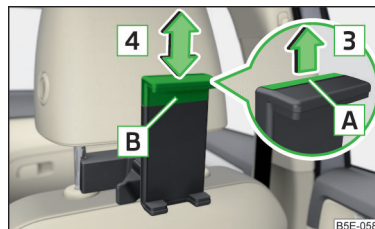

Fig. 122
- **To adjust the holder size**, pull out the securing tab **A** in the direction of arrow **3** and push the part **B** in the direction of arrow **4** to the desired position » Fig. 122.